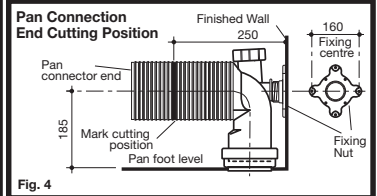

Fig. 4
- 5- Position fixing nut onto threaded spigot and refit connector into pan connector. Mark top three centre hole positions of the fixing nut on the finished wall. Determine and mark cutting position of pan connection end 250mm from finished wall and remove connector, as detailed in Fig. 4.